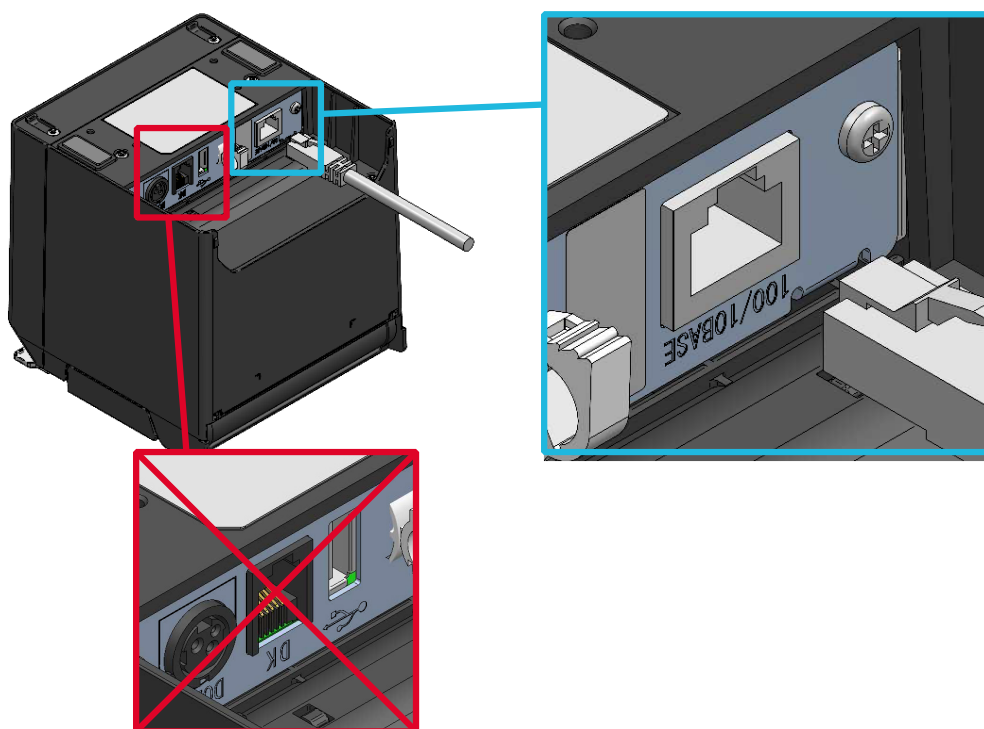

Figure 12-3 Printer and Ethernet Cable Connection
- (1) Ensure that the printer is off.
- (2) Connect the interface cable to use to the interface connector on the back side of the printer. (When connecting a USB cable, lock the USB cable with the wire clip as shown in Figure 12-3.)
- (3) Turn on the printer, and send data from the host device to the printer.
- (4) Verify that the data is printed correctly.